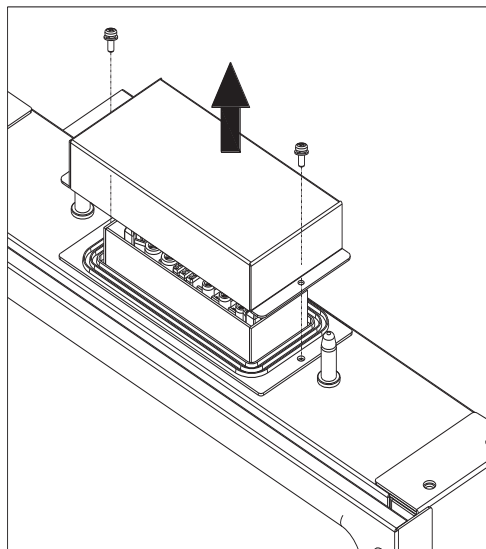
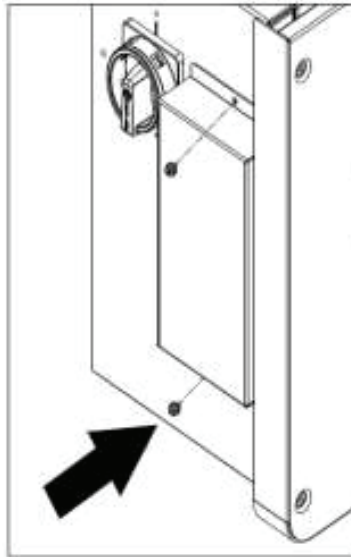

Figure 2.10 - Wiring Box Cover
Figure 2.15 - Dimensions of Anti-Theft Padlock
- ② Remove the cover at the top of the wiring box (see Figure 2.10)
(7) Attach the cover board as shown in Figure 2-10 to the left side of the wiring box. (see Figure 2-15)